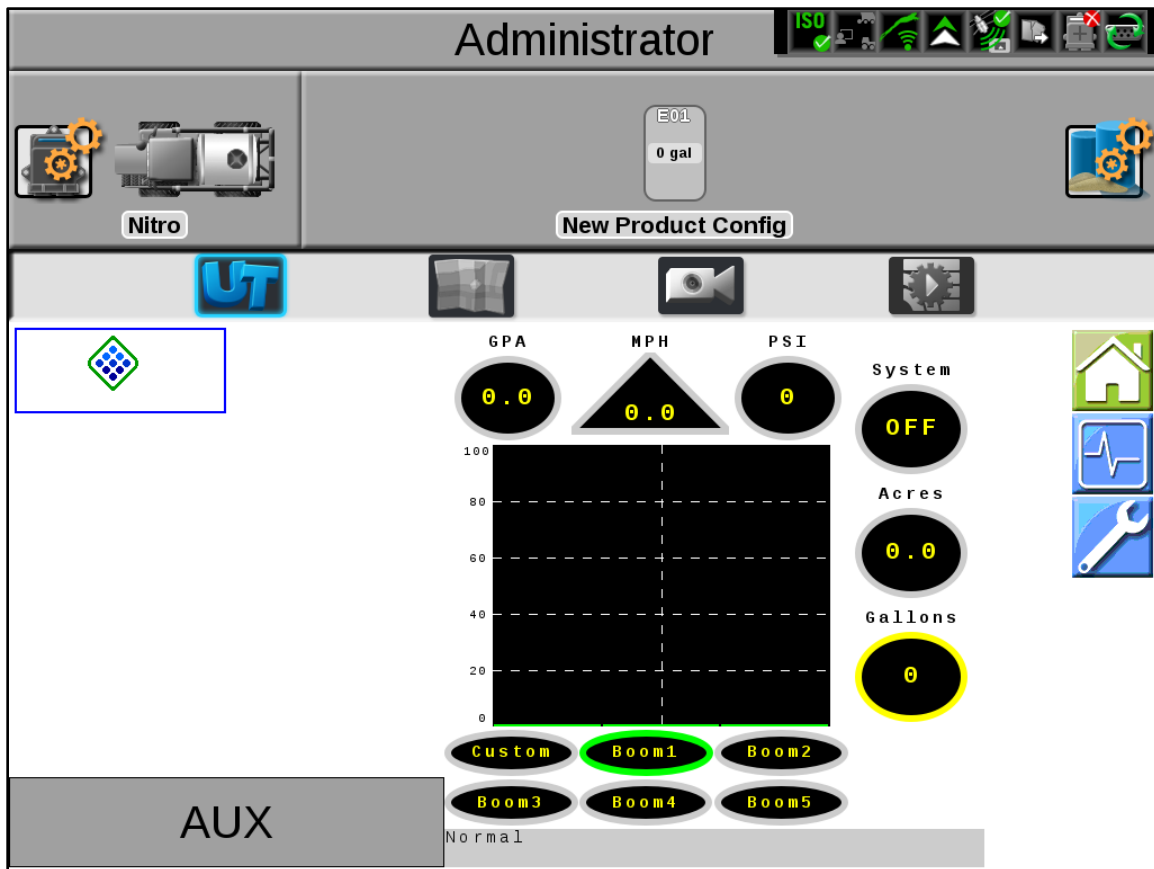

Figure 1 — Task Controller Home Screen
1. *Figure 1*: Select the CapstanAG PinPoint™ III icon  from the program icons on the left side of the task controller screen. This icon may be located in slightly different places depending on the task controller.